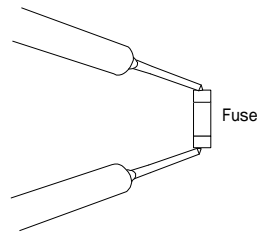

Fig.2
- 2) Check for continuity using a multimeter as shown in Fig.2.